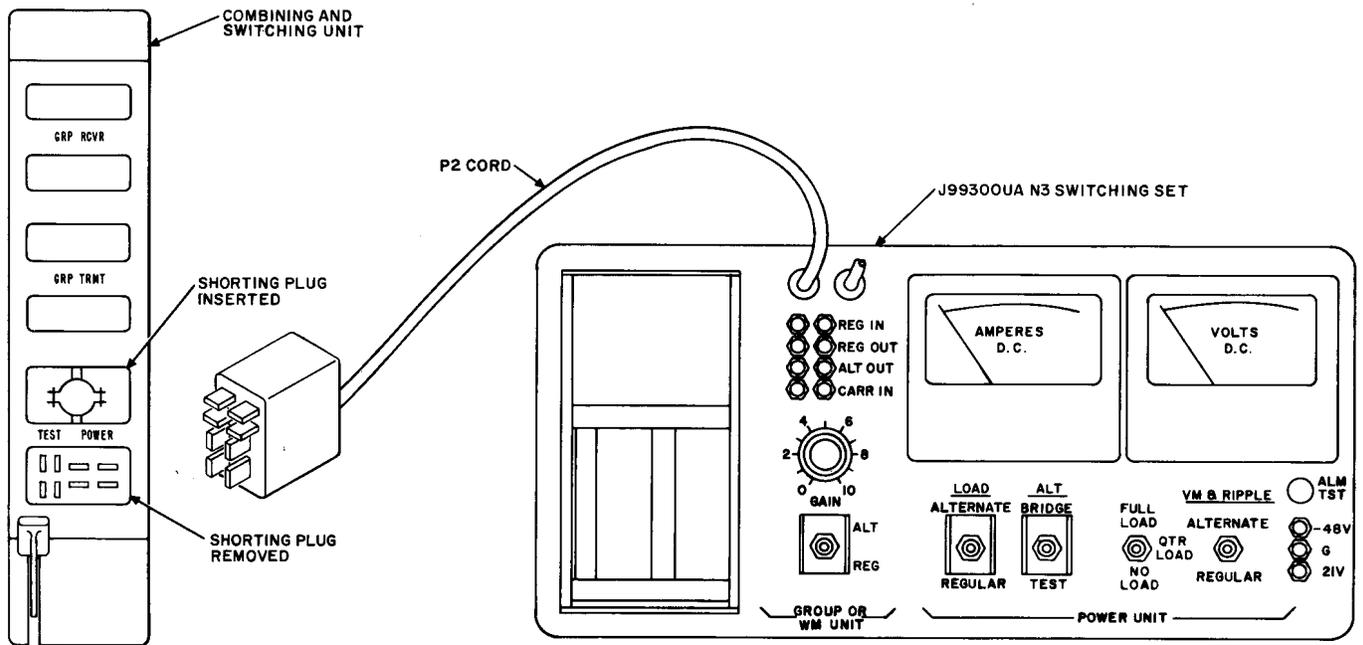

Fig. 3—Measure -21 Volt Power Supply Voltage Output
- 5 At the combining and switching (COMB & SW) unit of the terminal under test, remove one of the two shorting plugs from the TEST POWER jacks. (See Fig. 3.)